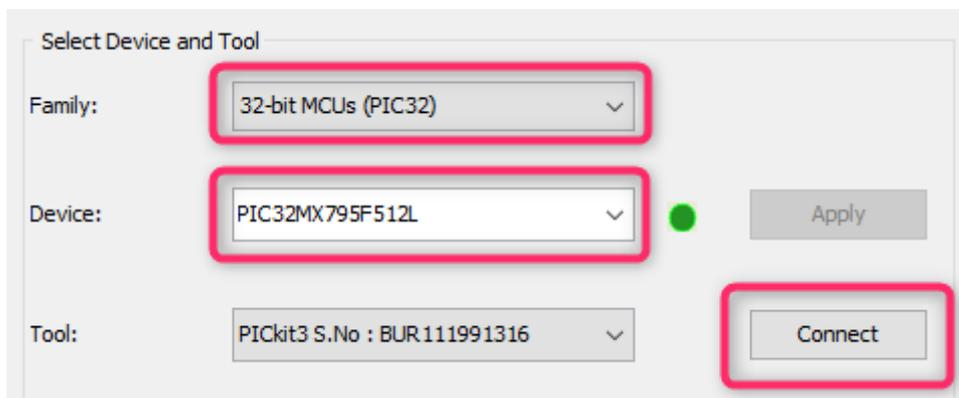

Figure 4 - MPLab IPE Setup
3. Launch Microchip IPE, select the right derivative and hit the “connect” button, as depicted in Figure 4: